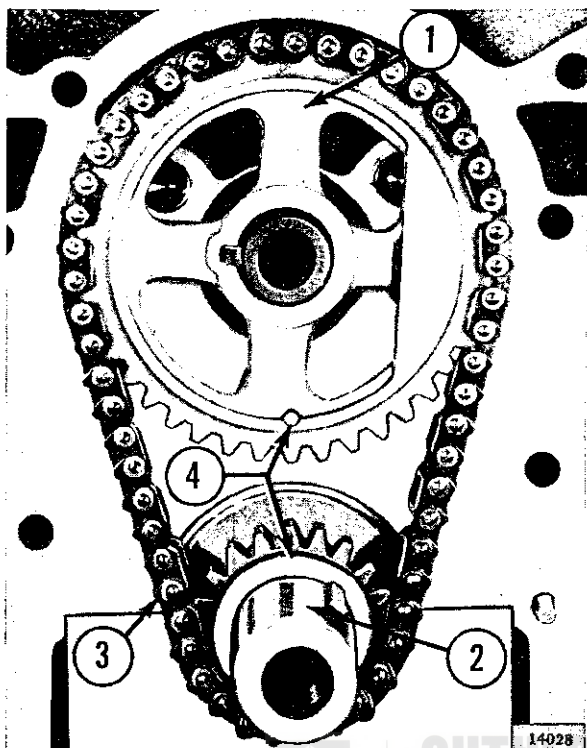

FIG. D1-7—TIMING CHAIN AND SPROCKET ALIGNMENT
a. Temporarily install vibration damper (Fig. D1-6) bolt and washer in end of crankshaft. Turn crankshaft so sprockets are positioned with index marks aligned as shown in Fig. D1-7. This will make it easier to install parts. Remove vibration damper bolt and washer; rap the wrench handle sharply to start the bolt without changing position of sprockets.